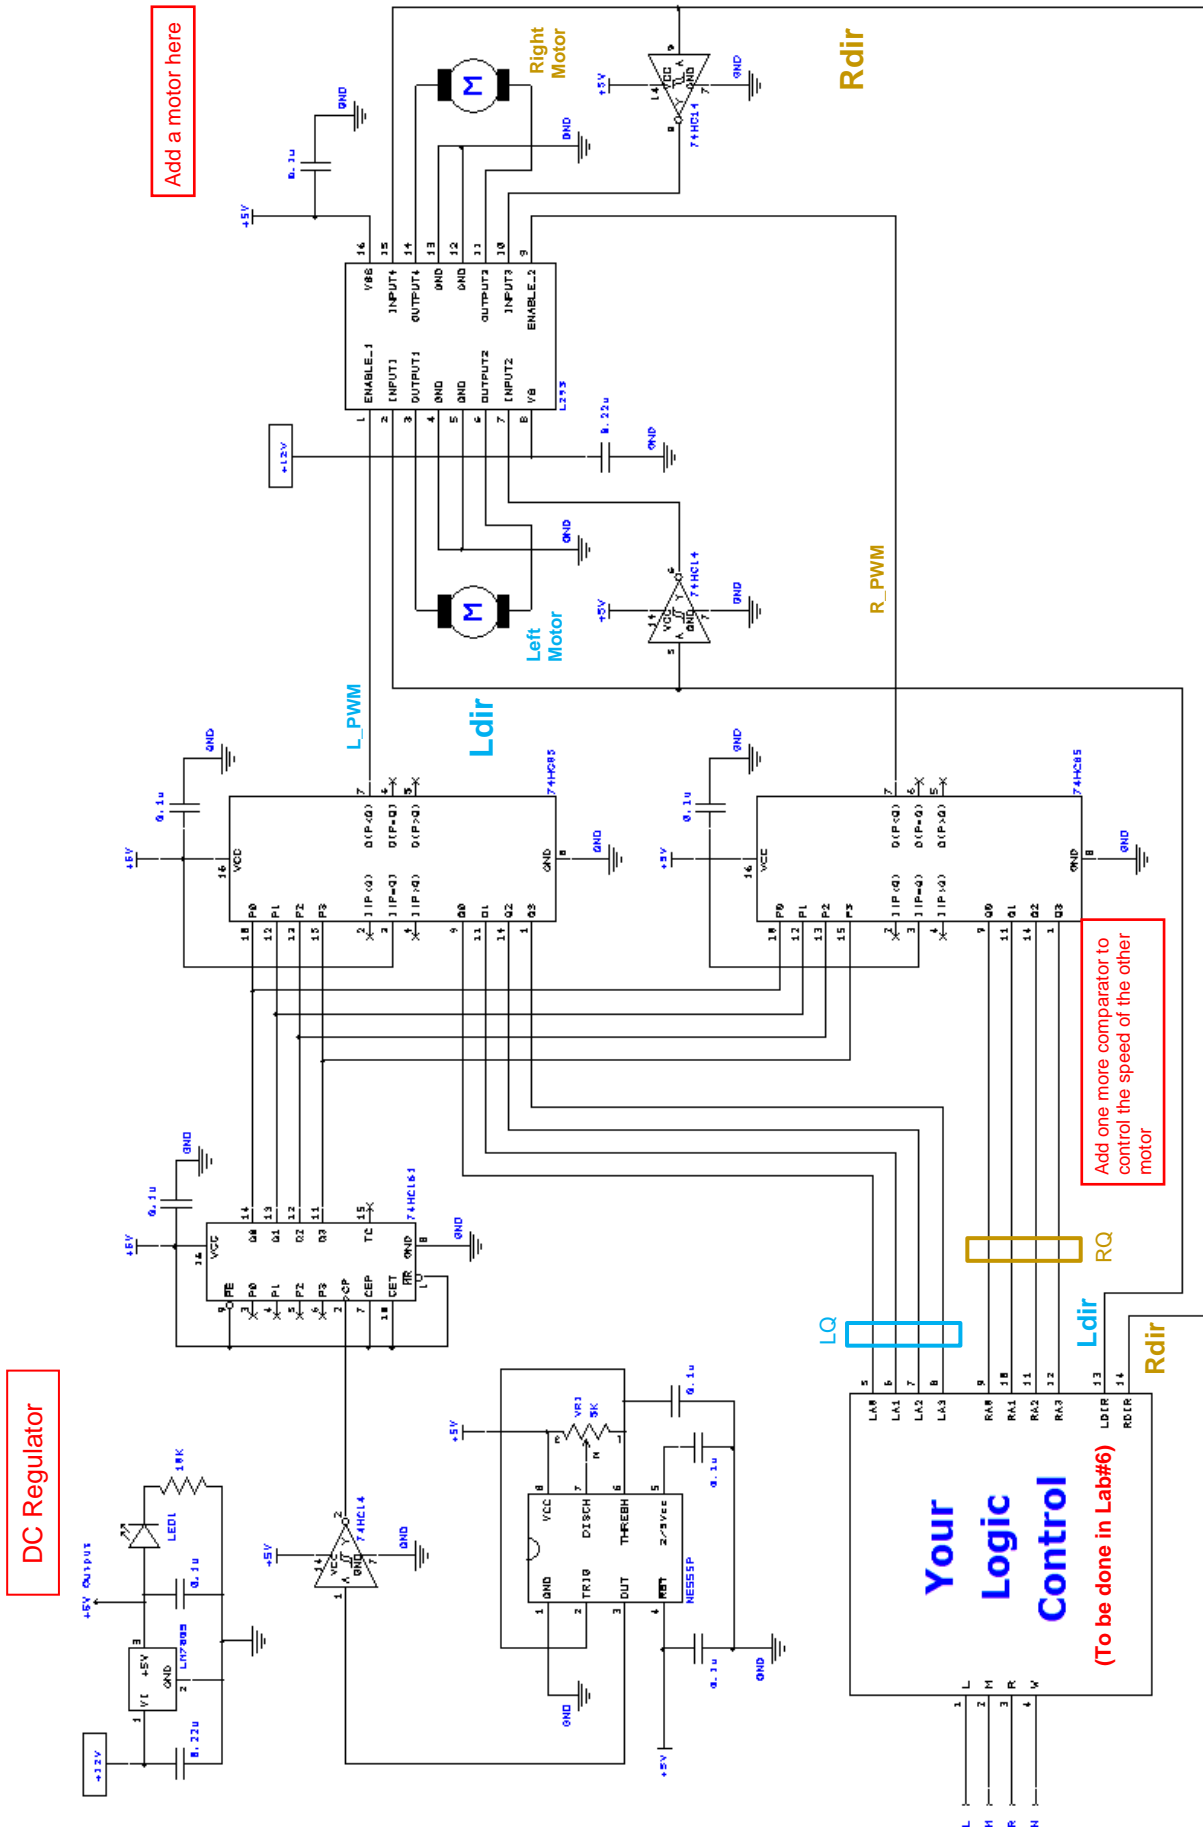

Figure 1: Refined PWM Circuit
Step 1: Add one more comparator 74HC85 as shown in Figure 1 next page.
Step 3: Connect your robot car's second motor to the motor driver (pins 11-14 of L293) as the right motor shown in Figure 1. Determine the pin numbers at 74HC14 to form the inverters associated with your motor circuit.